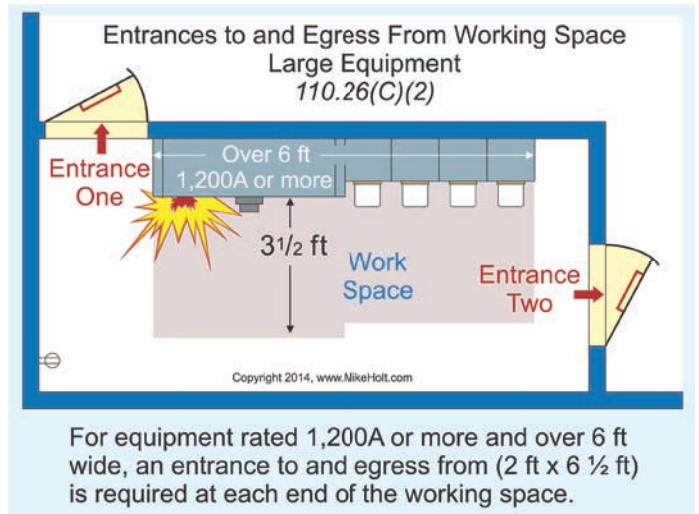

Figure 110-20
**(C) Entrance to and Egress from Working Space.**
**(1) Minimum Required.** At least one entrance of sufficient area must provide access to and egress from the working space.
**(2) Large Equipment.** An entrance to and egress from each end of the working space of electrical equipment rated 1,200A or more that's over 6 ft wide is required. The opening must be a minimum of 24 in. wide and 6½ ft high, **Figure 110-20**. A single entrance to and egress from the required working space is permitted where either of the following conditions is met: